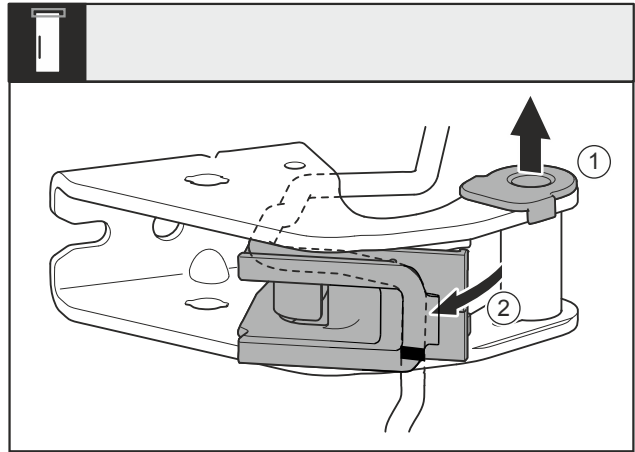

Fig. 27
- ▶ Pull the bearing bush Fig. 27 (1) out of the guide.
- ▶ Swivel the cable holder Fig. 27 (2) out.